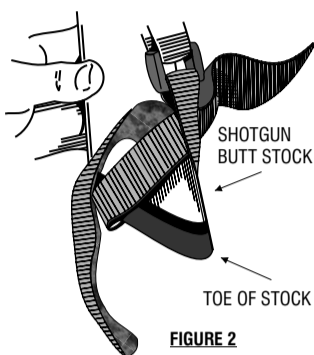

FIGURE 2
2. Insert (stand) the toe of the stock into the 1" webbing loop as shown in **Figure 2.** Pull upon the sling to begin forming the 1" wide webbing loop around the stock. The 1" wide webbing should cross butt of the stock at mid point between the toe and the heel of the stock. **Figure 2 & Figure 7.**